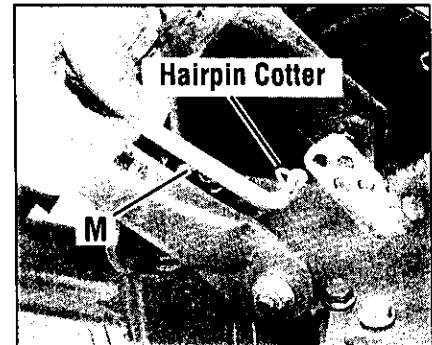

Figure 2-6: Install Forward Clutch rod.
1. The upper end of the Forward Clutch rod is attached to the bottom of the handlebar control panel. Turn the rod (M, Figure 2-6) so the small bend at its lower end points inward.
2. Insert a hairpin cotter down through the hole located closest to the bend (see Figure 2-6).